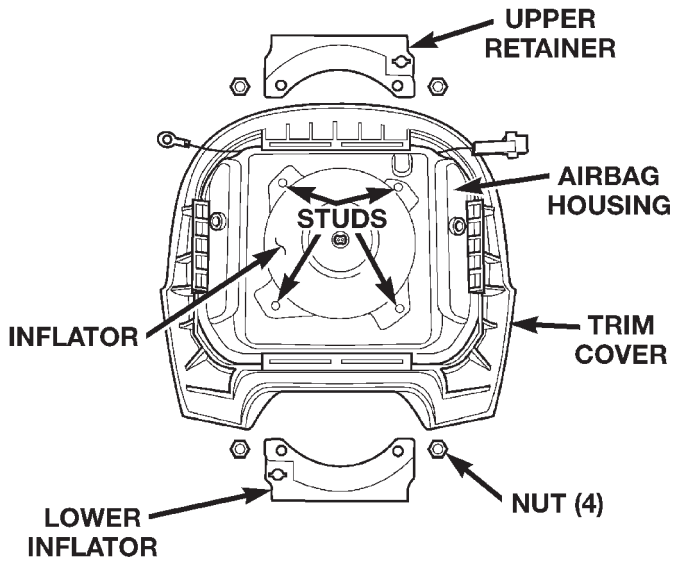

Fig. 6 Driver Side Airbag Trim Cover Retainers Remove/Install
(4) Remove the upper and lower trim cover retainers from the airbag housing studs (Fig. 6).
(5) Disengage the horn switch feed wire connector retainer from the mounting hole in the upper trim cover retainer.
(6) Remove the horn switch ground wire eyelet from the upper airbag housing stud.